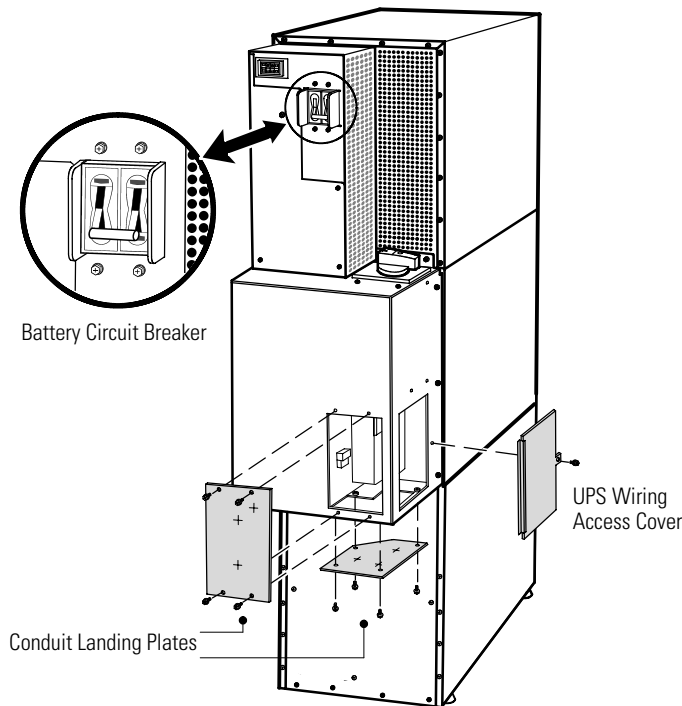

Figure 11. UPS Rear View (3-High Shown)
5. Verify that the UPS battery circuit breaker is in the OFF position (see Figure 11).
7. Remove the UPS wiring access cover and one of the conduit landing plates and retain (see Figure 11).